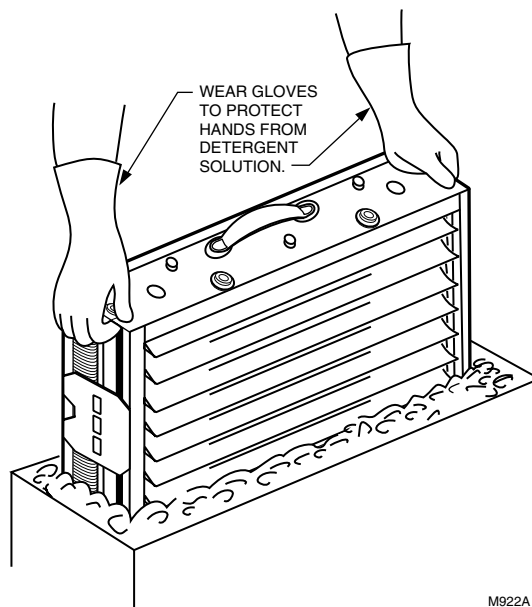

Fig. 16. When cleaning cell, agitate in detergent solution.
5. Soak the cell in the solution for up to 15 minutes. Agitate the cell in the solution if necessary. See Fig. 16.